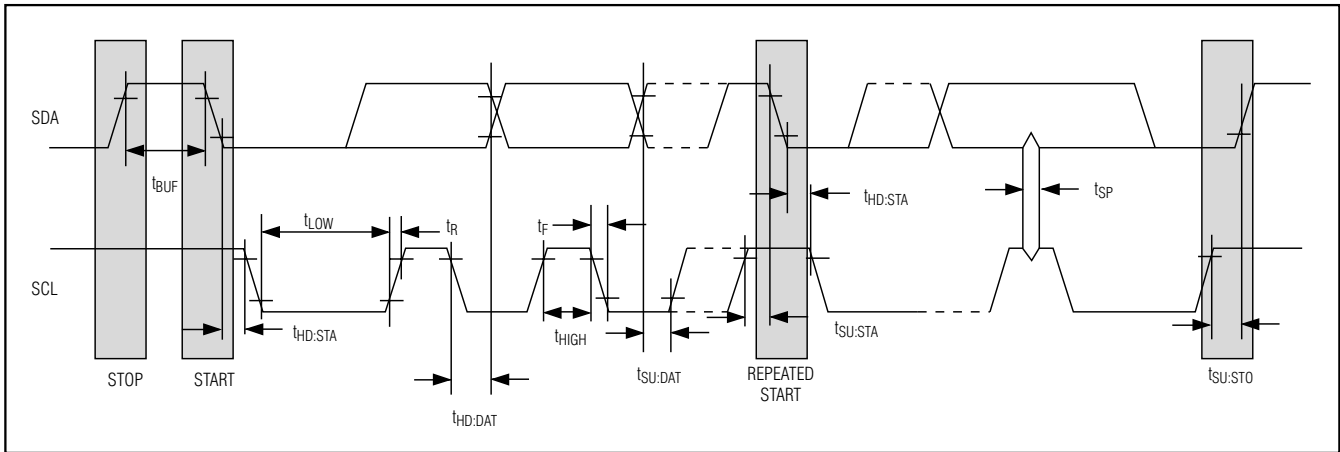

Figure 19. I2C AC Characteristics
**Bit Write:** Transitions of SDA must occur during the low state of SCL. The data on SDA must remain valid and unchanged during the entire high pulse of SCL plus the setup and hold time requirements (Figure 19). Data is shifted into the device during the rising edge of the SCL.
**Bit Read:** At the end a write operation, the master must release the SDA bus line for the proper amount of setup time (Figure 19) before the next rising edge of SCL during a bit read. The device shifts out each bit of data on SDA at the falling edge of the previous SCL pulse and the data bit is valid at the rising edge of the current SCL pulse. Remember that the master generates all SCL clock pulses, including when it is reading bits from the slave.
during the 9th bit. Timing (Figure 19) for the ACK and NACK is identical to all other bit writes. An ACK is the acknowledgement that the device is properly receiving data. A NACK is used to terminate a read sequence or as an indication that the device is not receiving data.